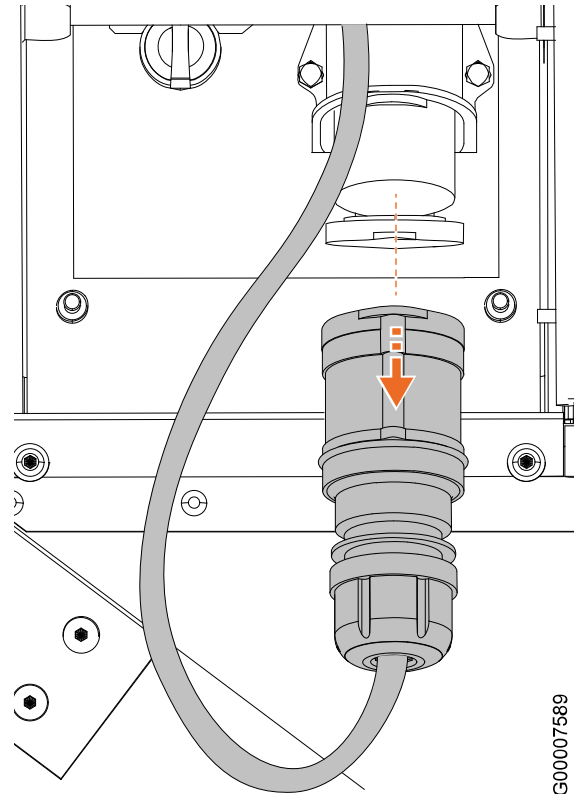

Fig. 29
5. Disconnect the charging cable and connect the appropriate type of adapter (**Fig. 29**).
8. Disconnect the adapter from the socket in the container, and connect the original charging cable to the socket (**Fig. 29**).